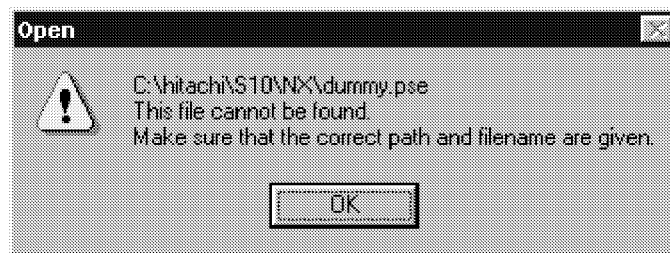

Figure 5-25 [Open] Error Message Dialog Box
- (3) In the “File name” text box, enter the name of the file to be edited, and then click the Open button. If the specified file name does not exist, an error message dialog box opens. (A dialog box shown in Figure 5-25 may open when the file name ‘dummy.pse’ is entered.)